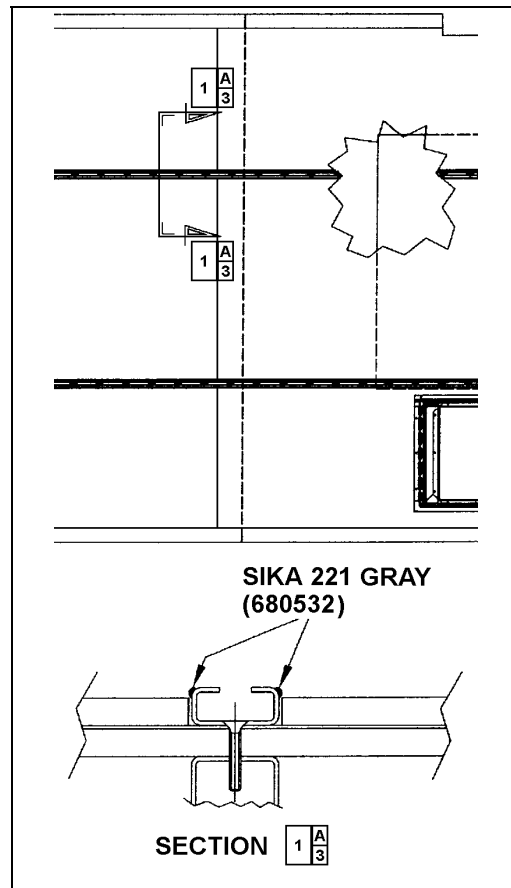

FIGURE 90: APPLICATION OF SIKA 221 GRAY 18641
8. Apply Sikaflex 221 gray sealant (680532) alongside passenger seat fixing tracks (refer to Figure 90).